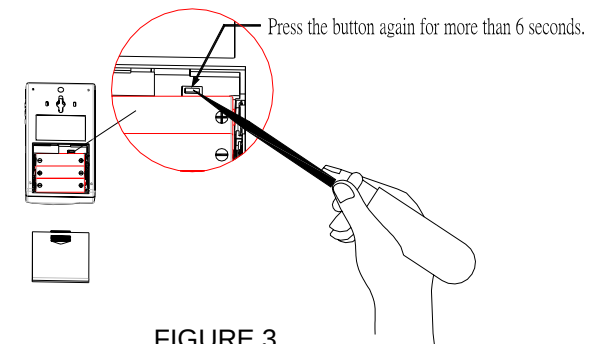

FIGURE 3
Step 4: Upon entering the code learning mode, release the button. Before receiving the code learning command, press and hold the button immediately again for more than 6 seconds. (FIGURE 3) The Sounder will bleep per second. After 6 bleeps being heard, all the preset memory will be eliminated.